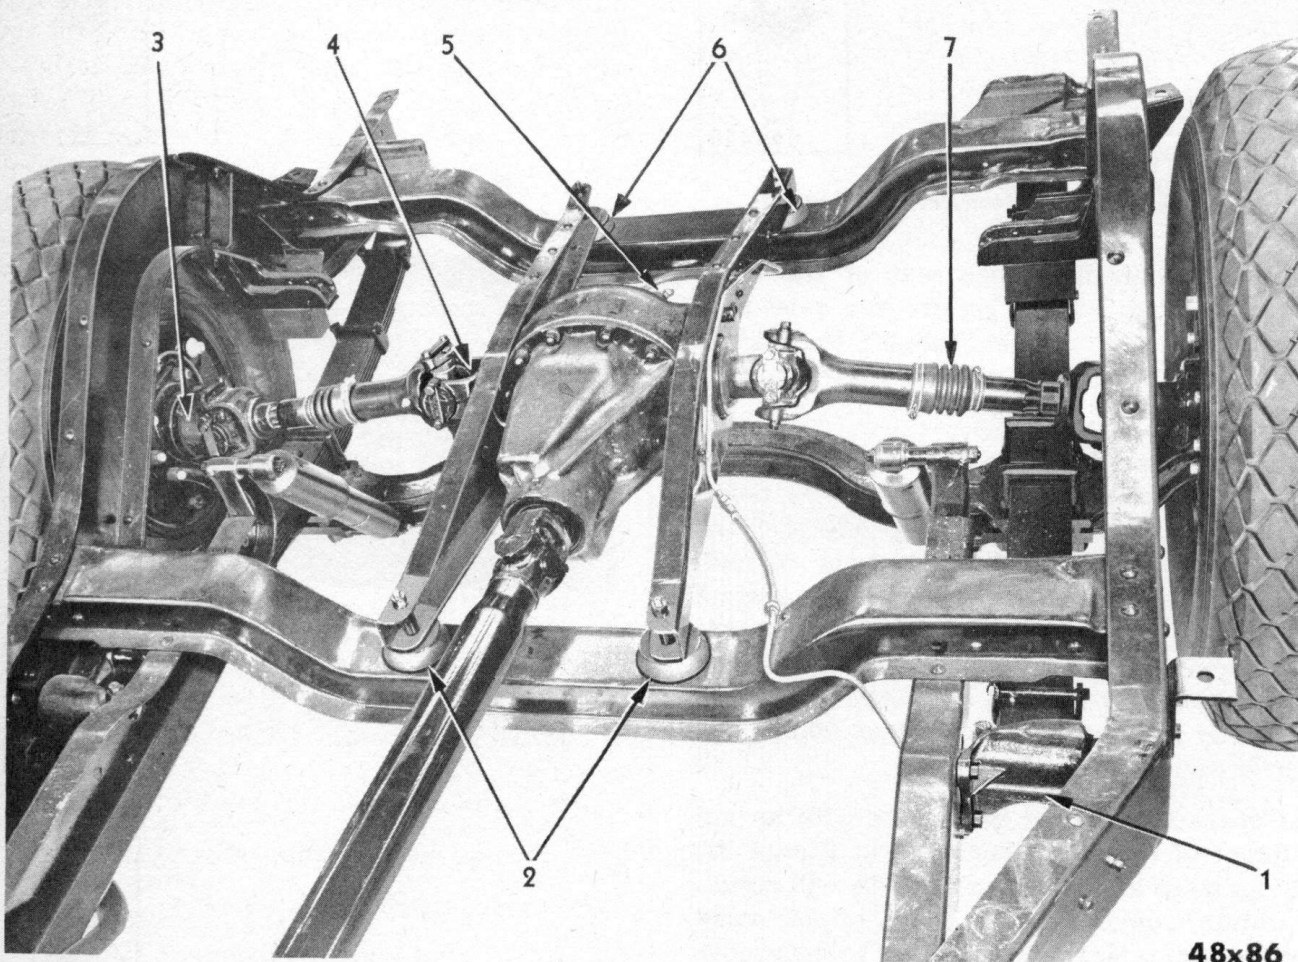

Fig. 94—Rear Axle Construction
The differential is mounted between two support arms, which are mounted to the frame cross members (Fig. 94). Between the differential and each rear wheel is a drive shaft with
81. REMOVAL AND INSTALLATION OF DIFFERENTIAL (FIG. 94)
- (1) Disconnect the three universal joints at the differential—one in the propeller shaft and two in the drive shafts.
- (2) Remove the four support arm mounting bolts and disconnect the brake line clips from the left support arm.
- (3) Disconnect brake line junction from support arm.
- (4) Remove the four rubber insulators (2 and 6, Fig. 94).